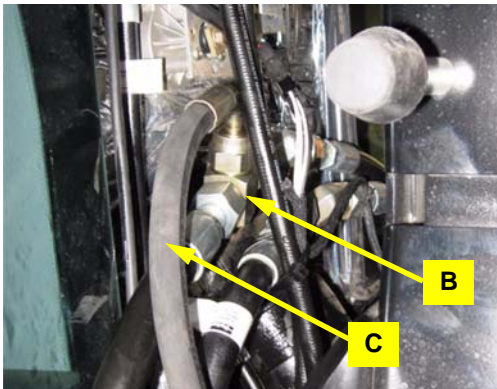
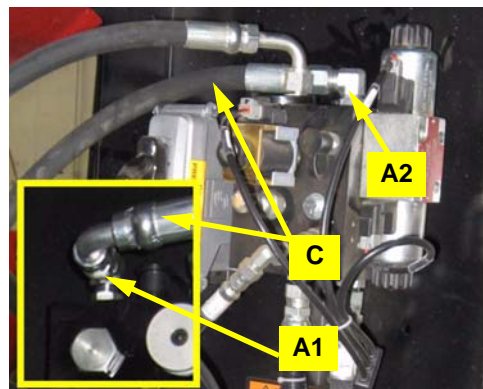

Figure 5a: Tank hose to/from the T port of hydraulic steering block connected at orbital
Figure 5b: Tank hose to/from orbital in T port of hydraulic steering block (TC inset)
5. Install hose **C** between the open stem of run-tee **B** at the orbital (Figure 5a) and the elbow adaptor (**A1** or **A2**) in the **T** port of the hydraulic steering block (Figure 5b - eDriveX, TC inset).